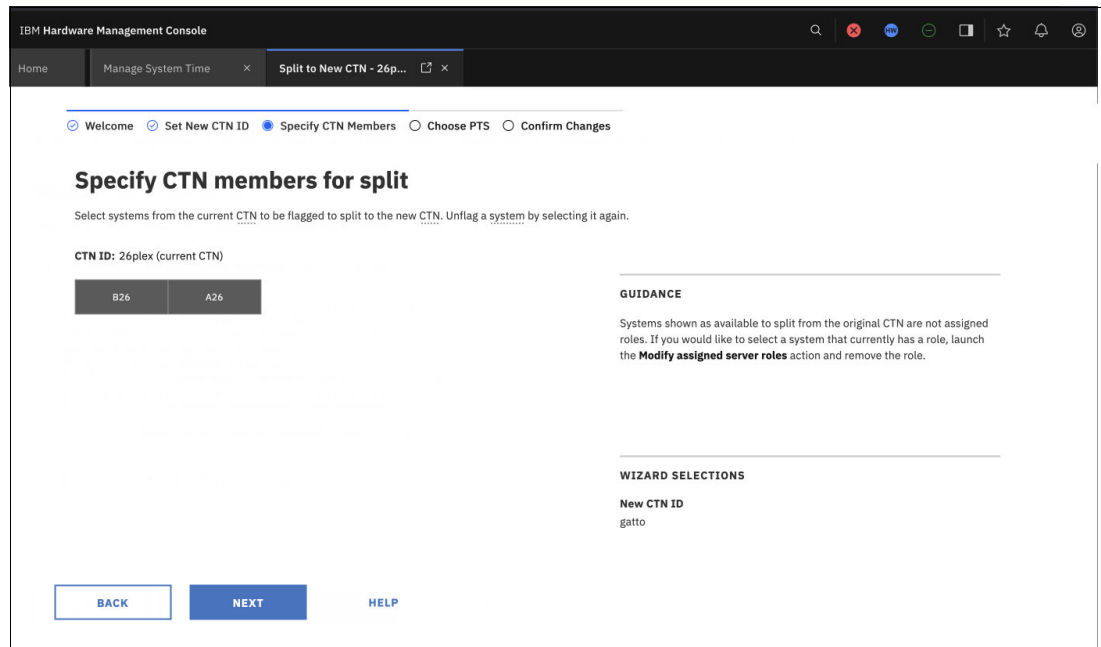

Figure 5-10 Servers for new CTN selected
5. Select the servers that you want to become members in the new CTN ID (“gatto”), as shown in Figure 5-10 on page 117.